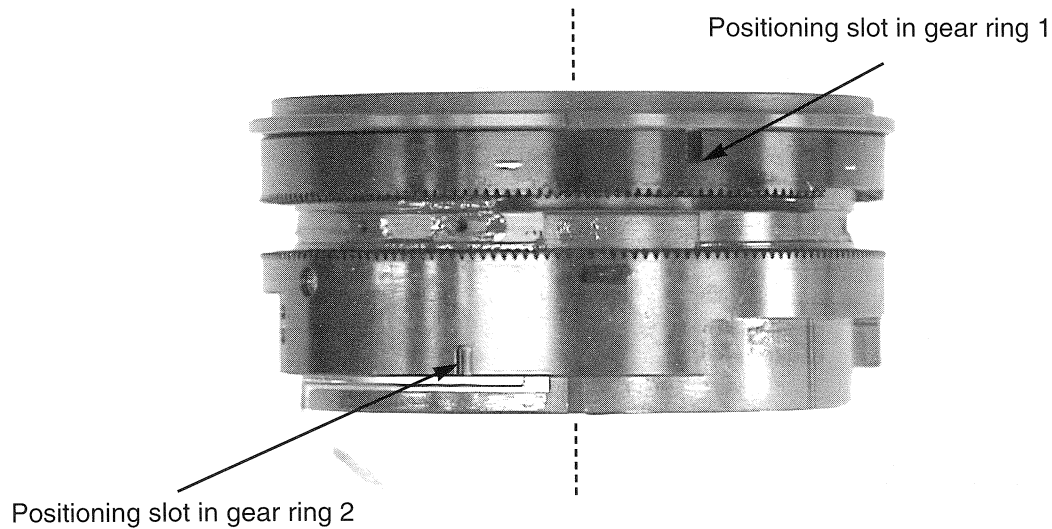

Fig. 3-17 Gear Ring Installation Position
- Refer to Fig. 3-17 Gear Ring Installation Position for details.